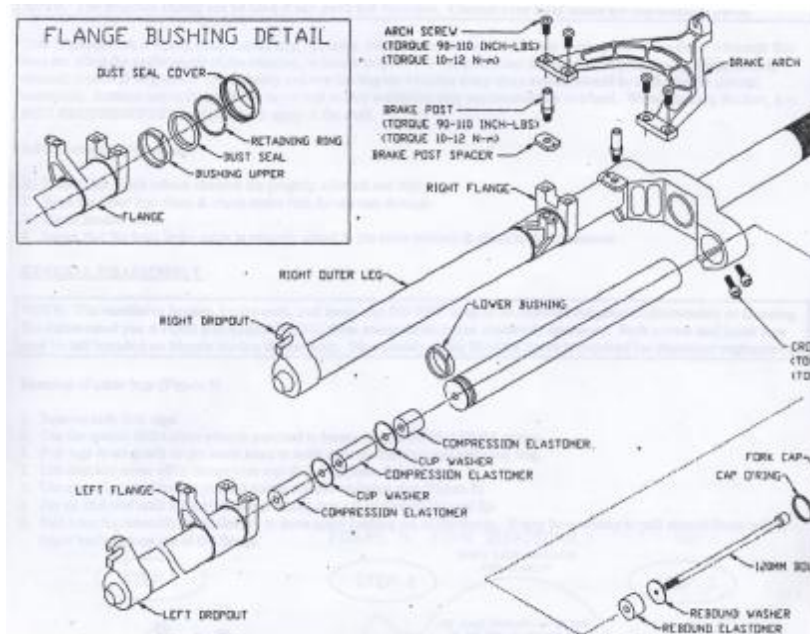

Figure 2
5. Install lower bushing and assemble elastomers as shown in Figure 2.